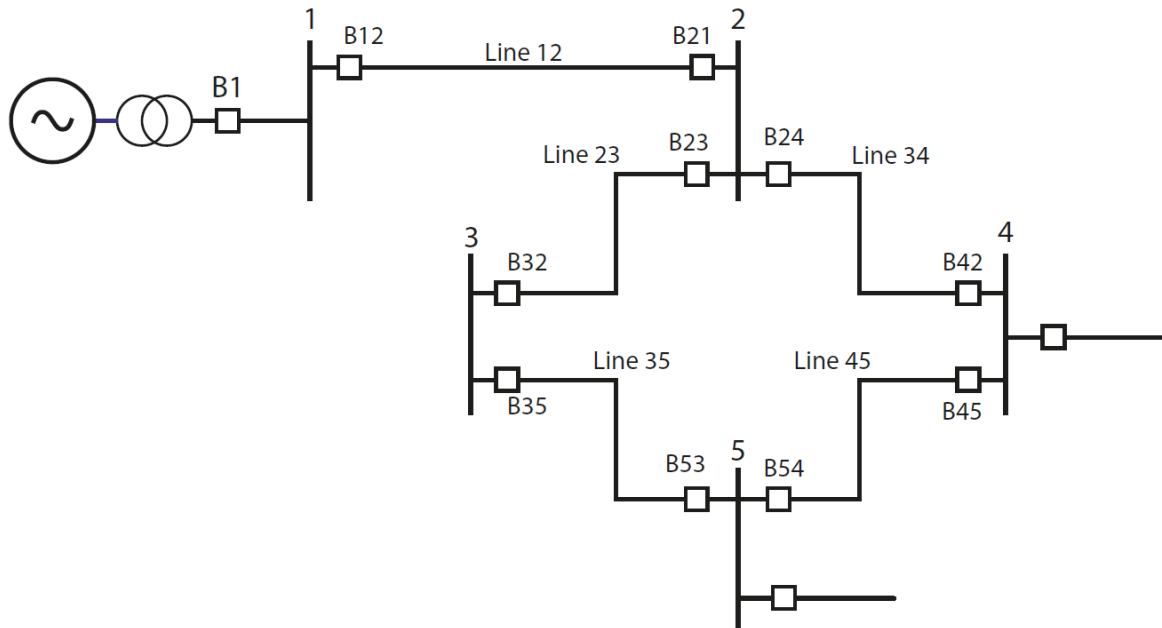

Figure 6. The system used in question C.2
- Determine appropriate relay settings for a three-zone directional distance relay at B12 in the meshed system in Figure 6. Three-zone mho relays protect all the lines. The positive sequence impedances of each line are provided in Table 4. The rated voltage for the high-voltage buses is 500 kV. The CT ratio is 2500:5, and the VT ratio is 4500:1 at B12. The task ahead is to determine the settings Z_{t1} , Z_{t2} and Z_{t3} for the mho relay at B12: